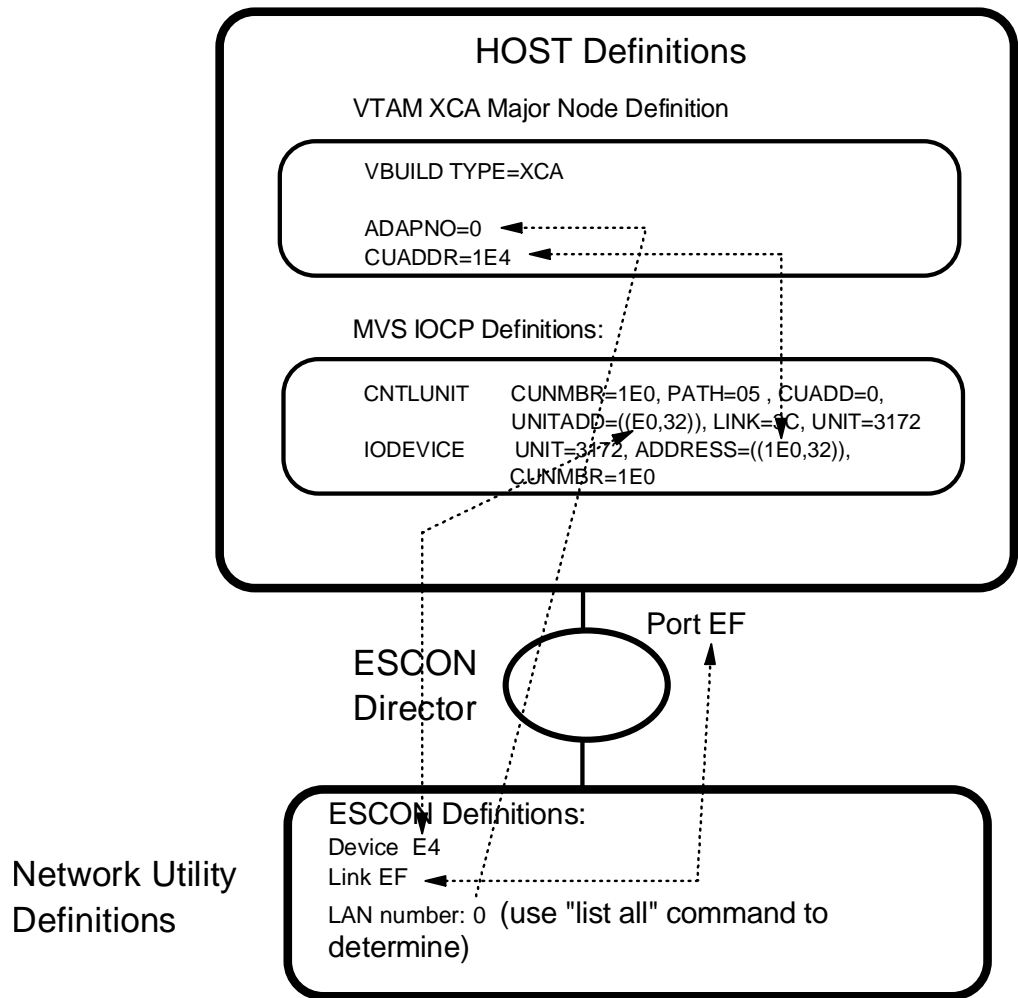

Figure 34. Host/Network Utility Parameter Relationships - LSA
The LSA Direct Interface: Figure 34 on page 213 shows how the configuration parameters for the Network Utility correlate to the host parameters for an LSA interface definition.
2. The device address specified in the Network Utility LSA interface definition must be within the range specified in the UNITADD parameter in the CNTLUNIT macro from the IOCP. For example, the UNITADD parameter in Figure 34 shows that 32 (decimal) device addresses starting at E0 (hex) are being reserved for the Network Utility definition. A device address E4 has been specified for the Network Utility LSA interface. Because E4 is in the range between E0 and FF hex, this is OK as long as no other device (or interface on this Network Utility) tries to use that subchannel.
3. The value specified in the CUADDR parameter in the VTAM XCA major node definition must be within the range specified in the ADDRESS parameter in the IODEVICE macro from the IOCP. For example, the CUADDR parameter in the XCA major node definition in Figure 34 is 1E4 hex, which is in the range 1E0 to 1FF that the ADDRESS parameter in the IODEVICE statement specifies.